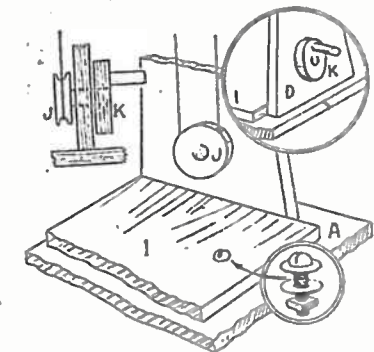
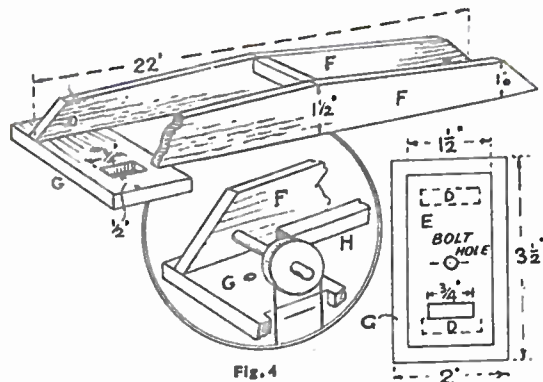
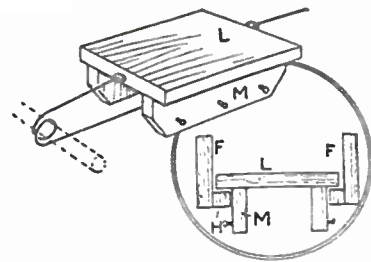

Fig. 3
Fig. 4
Fig. 5
(I), which must be 3 ins. long by 2 ins. wide, and glue the uprights to it, the back edge projecting 1/2 in. beyond the back edges of the two piers. In Fig. 3 is shown the position of piece (I) and one of the sides of the pier, and the top (A).
The top member (E) of each pier is now made, and each piece is 3 ins. long by 1 1/2 ins. wide. Set out on the pieces, the position (D), shown dotted in the diagram in Fig. 4. The top of the piers must later be glued here. Also mark out the oblong opening which must be cut to allow the pulley belt to pass downwards to the lower pulley. This opening is shown as being 3/4 in. long and 1/2 in. wide in Fig. 4.
Next, set out pieces (G) to the sizes shown in Fig. 4. Lay piece (E) on this, keeping an equal margin all round as shown, and mark round the opening in pencil so that the latter is repeated and cut on piece (G). Also bore the bolt hole through the two pieces ready for assembly. The pieces (E) can now be glued to the tops of the piers and one or two fret pins added for strength. Lay pieces (G) aside for fixing to the ends of the bridge later on.
pieces (F). These may be to the length shown in Fig. 4, or shorter if economy of wood is to be considered. Make a 1/2 in. hole at each end, then glue and screw the girders to the pieces (G), keeping them 2 ins. apart. If the longer length of girder is used, a stiffening piece should be fixed across the centre from side to side as seen in Fig. 4.
ment as seen in Fig. 3. Two pieces of $\frac{1}{2}$ in. diameter rod, each 2 ins. long, will be pushed through the holes in the ends of the girders and on one of these is glued a pulley to come inside one of the pliers as seen in the circled diagram in Fig. 4. The rod must work perfectly free in the hole. On the other end of the rod, two discs of wood with holes in their centres are glued on again inside the pier to keep the rods steady and in place. Here again the rod must work freely.
Now get two lengths of $\frac{1}{2}$ in. square stripwood as (H) and glue them one each to the inside surface of the girders, and flush with the lower edge. These form the runners for the traveller supporting the car. These runners are clearly shown in the cross section in the circled enlargement in Fig. 5 and also in Fig. 4. The bridge girders are now ready for final bolting on.
The traveller, shown in Fig. 5, is made next, piece (L) being $\frac{1}{2}$ in. long by $1\frac{1}{2}$ ins. wide, to the lower side of which is glued, on edge, the two guides (M). When these latter are fixed to (L) the whole must slide easily and smoothly between and on the runners (H). The side pieces (M) are $\frac{1}{2}$ in. wide and have ends cut to an angle of 45 degrees, and in each piece are driven three roundheaded screws, spaced as shown to take the cords or wires supporting the car.
The illustration in Fig. 5 shows the completed traveller with screw eyes run in at each end to take the cord which propels it backward and forward. A
parts and surfaces and paint them. Bolt the pliers to the side platforms and fix the bridge to the pliers as shown in Fig. 3. Now run a piece of round rod about $\frac{1}{2}$ in. long through the hole in the lower part of the pier and glue in on the inside of this latter the pulley wheel (J) shown in Fig. 3. Then, on the outside end of the rod, glue the plain disc and handle (K) shown, allowing space between the disc and the side (D), and the handle disc (K) and the side for free turning when the inside connecting band is fitted over the two pulleys.
Finally connect up the two end rods of the bridge by winding a cord round each and tying the ends to the eyes on the ends of the traveller. An indication of the method is given in Fig. 5, the rods being shown dotted to allow the cord to be clearly seen. It will be seen that the traveller and its suspended cabin can be moved either way by turning the handle. (195)